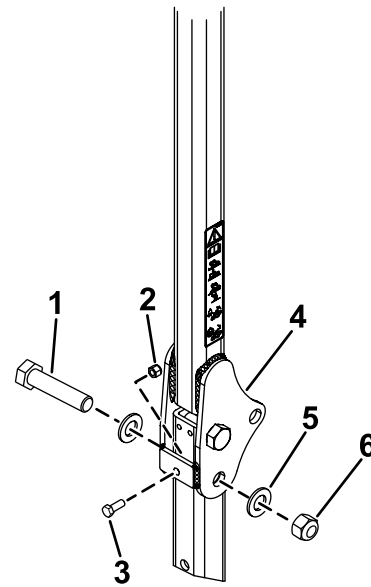

Figure 24
3. Insert a washer (13/16 x 1-1/2 inches) onto each bolt (3/4 x 4 inches) as shown in Figure 24.
4. In the holes where the pins were removed, install the bolts and washers (Figure 24).
5. Install another washer onto each bolt and secure with nuts (3/4 inch) as shown in Figure 24. Torque the nuts 323 to 396 N·m (238 to 292 ft-lb).
6. Install a bolt (3/8-16 x 1 inch or 1-1/4 inches) with a jam nut (bolts and jam nuts are not provided) in the threaded plate on each side of the lower portion of the roll bar in the hinge area (Figure 24). Tighten the bolt until it is tight against the upper roll-bar tube and tighten the jam nut.
7. Torque the ROPS pivot bolt (Figure 24) to 91 to 113 N·m (67 to 83 ft-lb) to avoid any bouncing of the roll bar and sunshade.